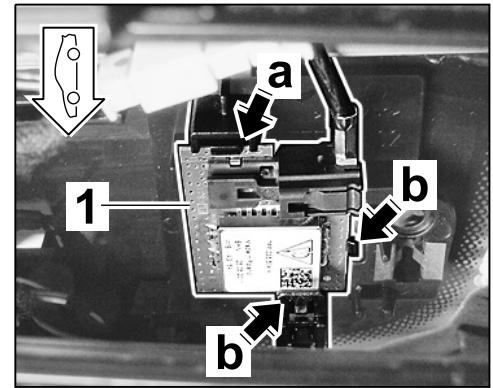

Figure 8
- 2.2.2 Insert GPS antenna ⇒ *Figure 8*
-1- into the mounting ⇒ *Figure 8*
-arrow a- and clip it in ⇒ *Figure 8*